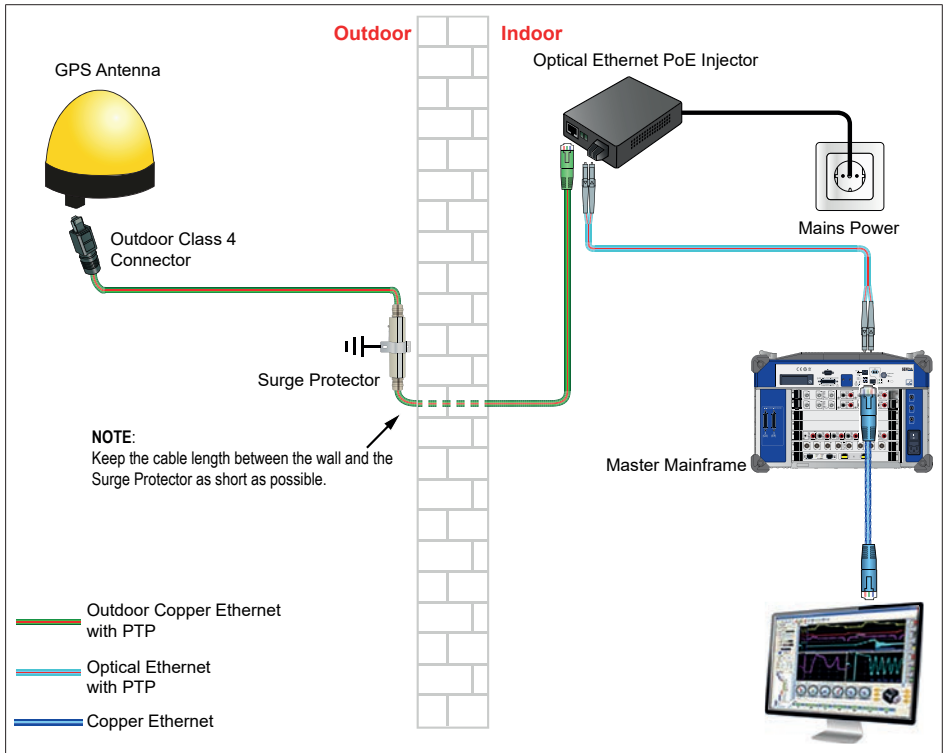

Fig. 15.12 Block diagram GPS time synchronization
6. After finishing these steps the G002B option is fully installed and operational. Please refer to Fig. 15.12 for an overview of the installed option.